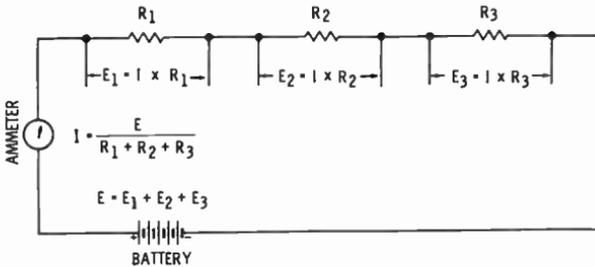
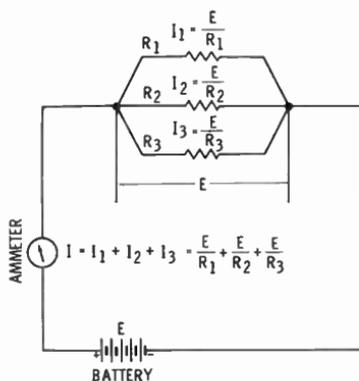

Fig. 19. Simple circuit with three resistances connected in series.
Fig. 23. Simple circuit with three resistances connected in parallel.
If several resistances are placed in series, as in Fig. 19:
The sum of the differences of potential across the various parts of the circuit is equal to the total voltage impressed on the circuit. Thus,  $E = E_1 + E_2 + E_3$ . In the circuit of Fig. 19, the current  $I$  is the same in each part of the circuit, but the voltage across each resistance depends directly upon the value of that resistance being considered.
**Example:** What voltage must be furnished by the battery in Fig. 19, in order to force 0.25 ampere through the circuit, if  $R_1$ ,  $R_2$  and  $R_3$  are 5, 15 and 20 ohms, respectively?
In a parallel circuit (Fig. 23), the voltage across the various resistances is the same and the current flowing through each resist-
**Example:** If the resistances in the circuit of Fig. 19 were connected in parallel, as in Fig. 23, what will be the total current and the current flowing through each resistance if the voltage remains unchanged or 10 volts?